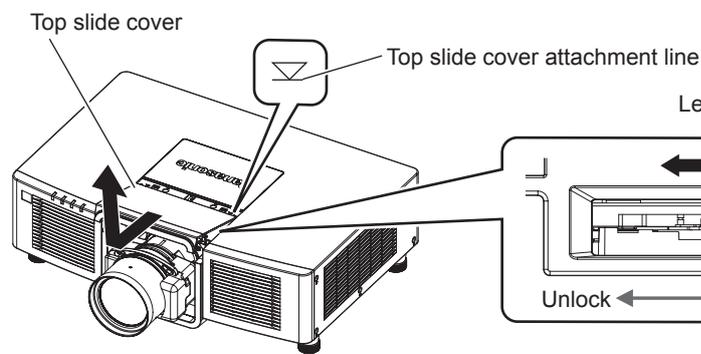

Fig. 2
- 2) **Remove the top slide cover. (Fig. 2)**
- 7) **Attach the top slide cover. (Fig. 2)**
- 5) **Attach the top slide cover. (Fig. 2)**